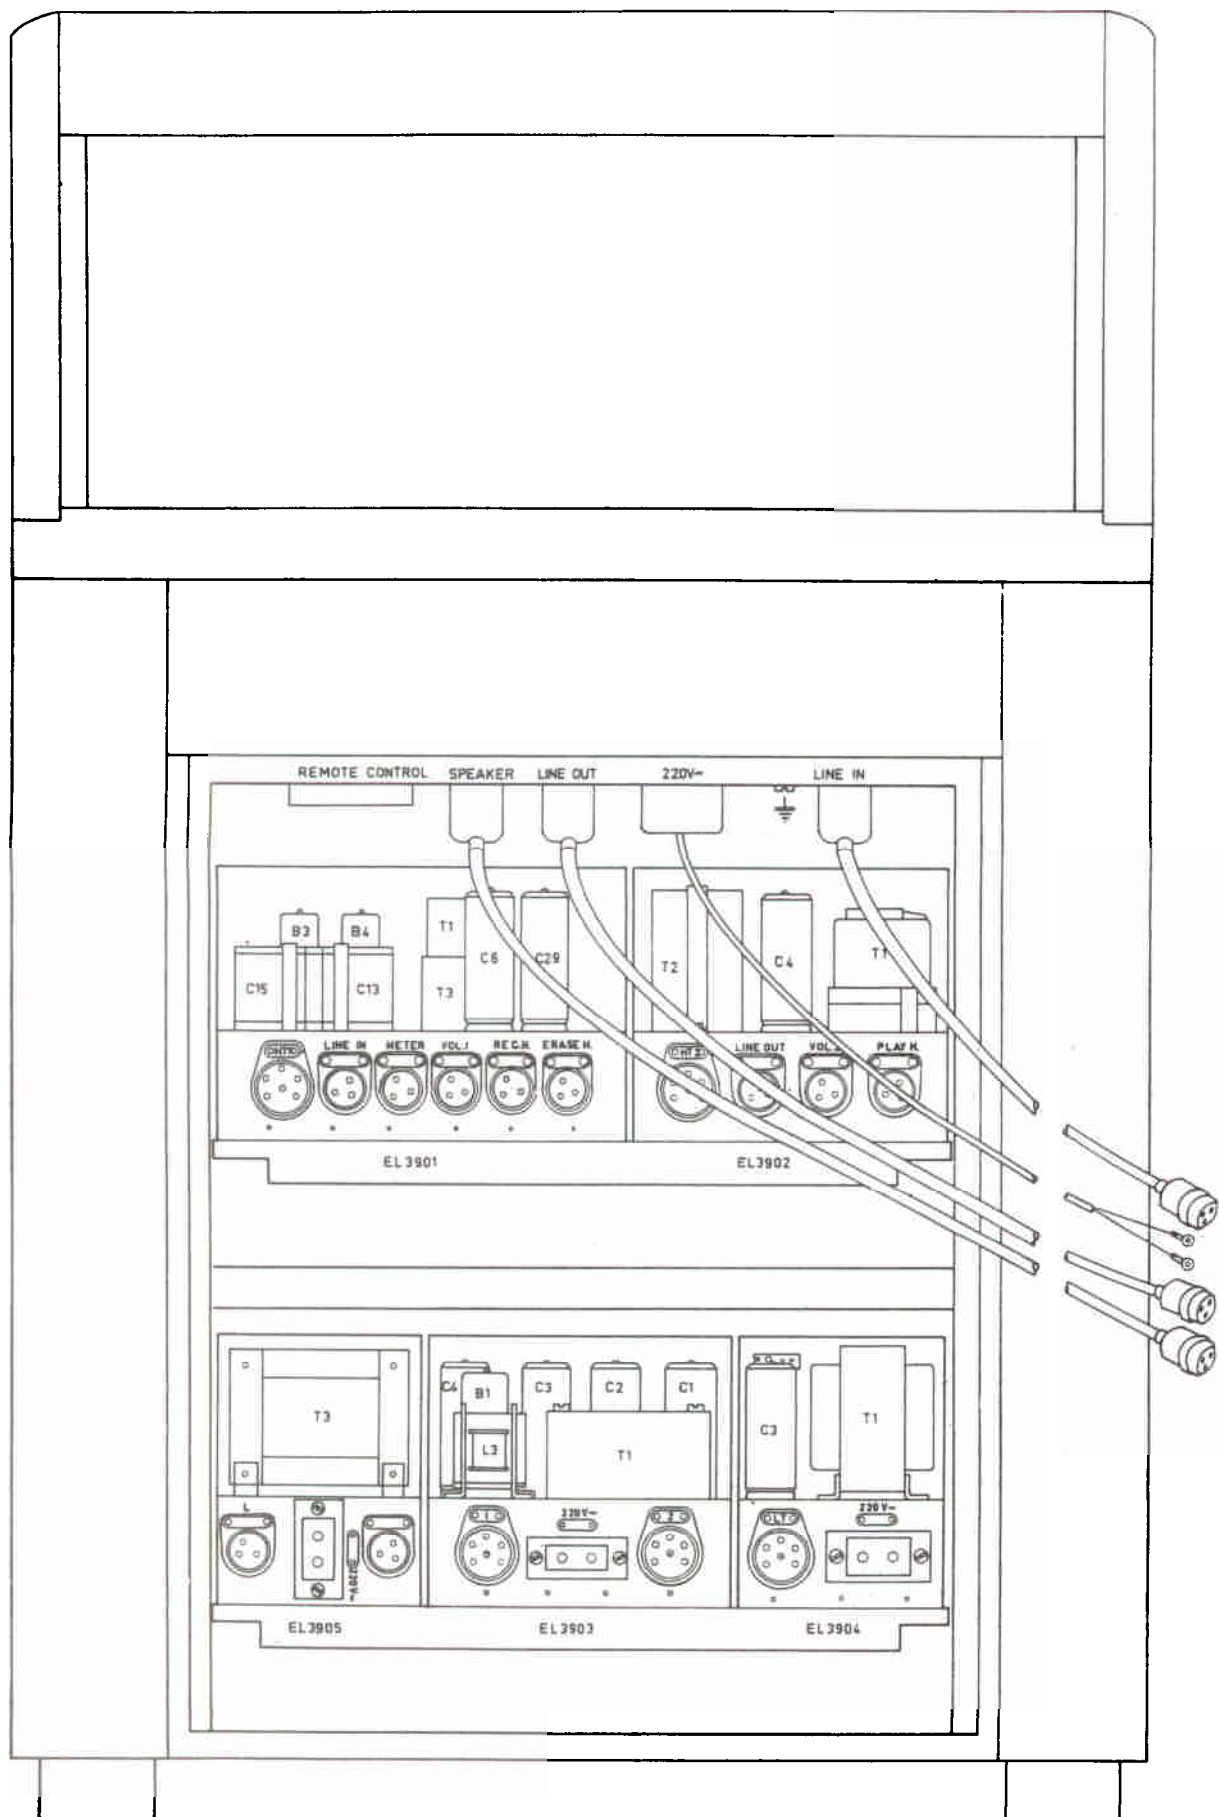

Fig.3
C. CIRCUIT-DIAGRAM DESCRIPTION (fig. 3)